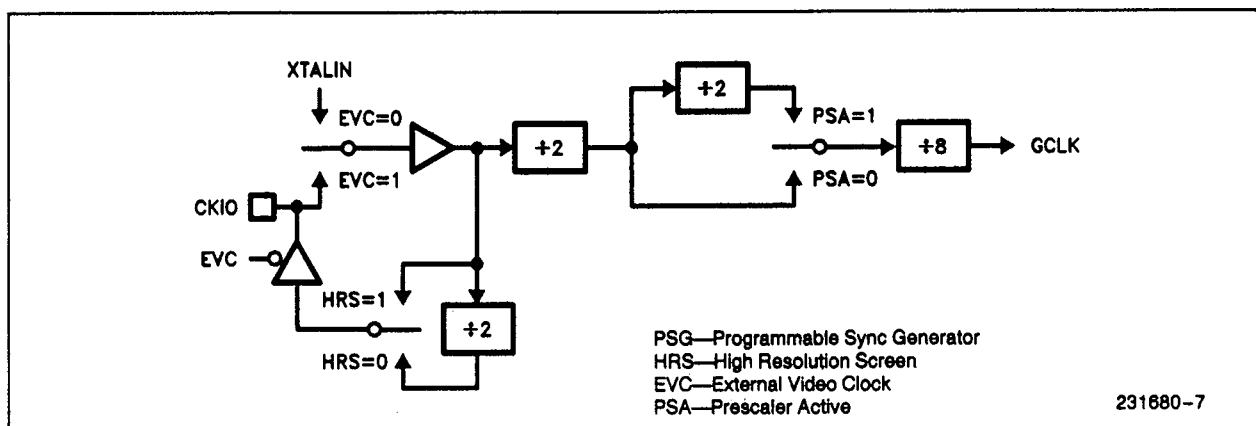

Figure 7. PSG Clock Generator
PSA	Pre Scaler Active—This bit defines the relationship between the video clock frequency and the sync generator clock frequency. (Figure 7). GCLK is used for programming horizontal timings. If the video clock exceeds 16 MHz, the PSA bit should be set (1).
The horizontal screen constants are programmed in units of GCLK periods, offset by 1 (see Figure 7). If the programmed constant is 5, the actual time is 6 GCLK periods.